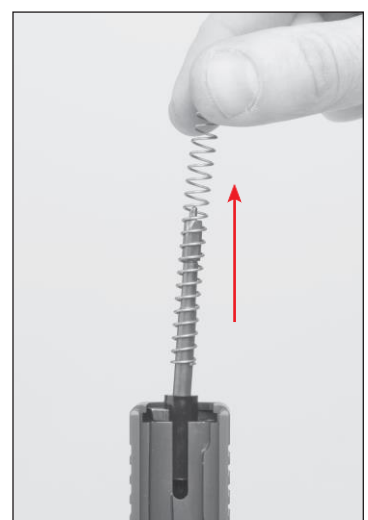

Fig. 38
- Take the spring off the firing pin. (Fig. 38)